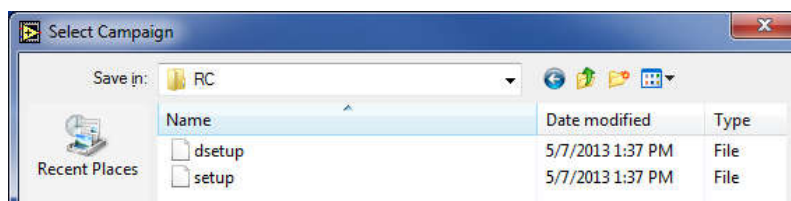

Figure 4-10: RCM setup files inside own campaign
- **Load setup:** load the setup from the current campaign. (See Figure 4-10)
- **Save setup:** save the setup to the current campaign. (See Figure 4-10)